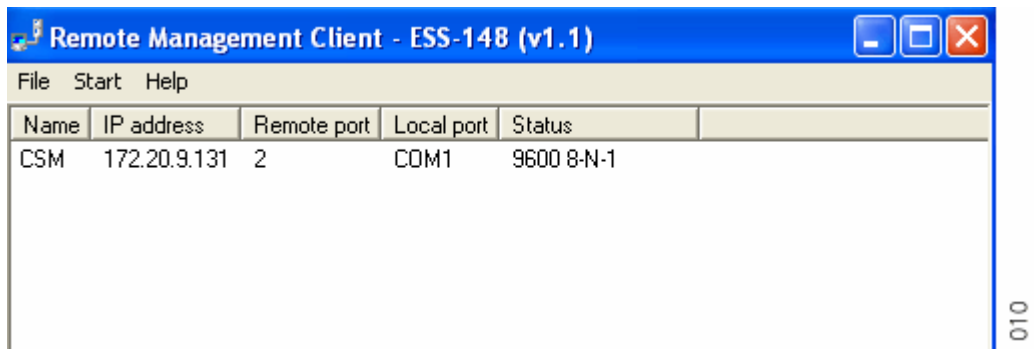

Figure 19. Opened channel to a site with a System 9d or PWT.
- 6 Mark a channel for desired system and select "File" > "Open channel" in order to get the remote connection up and running, see figure 19 below. For a description of the columns see About the site columns during an open connection on page 11.